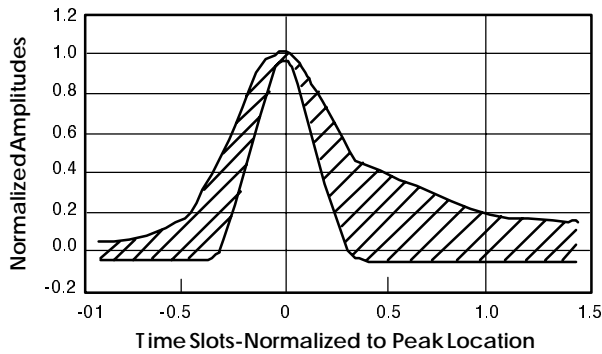
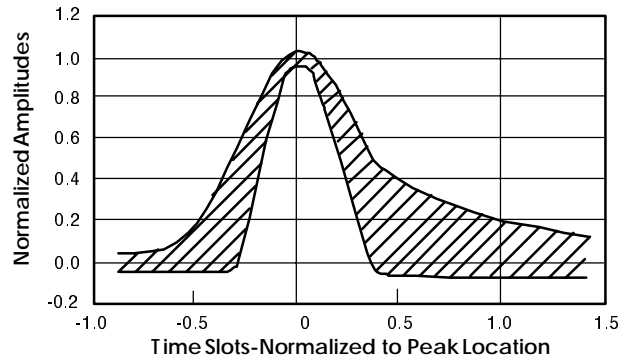

Figure 3. DSX-3 Isolated Pulse Template for ANSI T1.404 Standards
Figure 4. DSX-3 Isolated Pulse Template for Bellcore TR-NWT -000499
Currently, two isolated pulse template requirements exist: the ANSI T1.404 pulse template (See Table 3 and Figure 3) and the Bellcore TR-NWT-000499 pulse template. The pulse transmitted by the XRT7298 meets these templates.
Pulse Shape	An isolated pulse must fit the template in Figure 3 or Figure 4. ¹ The pulse amplitude may be scaled by a constant factor to fit the template. The pulse amplitude must be between 0.36Vpk and 0.85Vpk, measured at the center of the pulse.
- ¹ The pulse template proposed by G.703 standards is shown in Figure 4 and specified in Table 4. The proposed G.703 standards further state that the voltage in a timeslot containing a 0 must not exceed ± 5% of the peak pulse amplitude except for the residue of preceding pulses.
Table 3. DSX-3 Pulse Template Boundaries for ANSI T1.404 Standards (See Figure 3.)
Table 4. DSX-3 Pulse Template Boundaries for Bellcore TR-NWT -000499 Standards (See Figure 4)